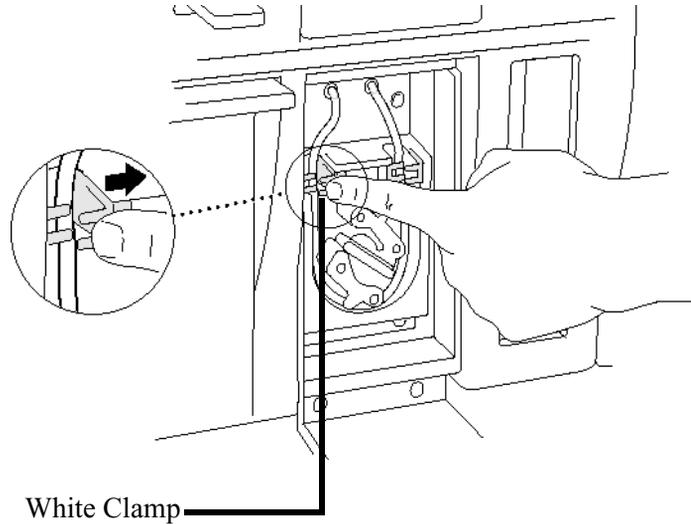

Figure 3.7
2. Open the white clamps to release tubing on both sides. See Figure 3.7.